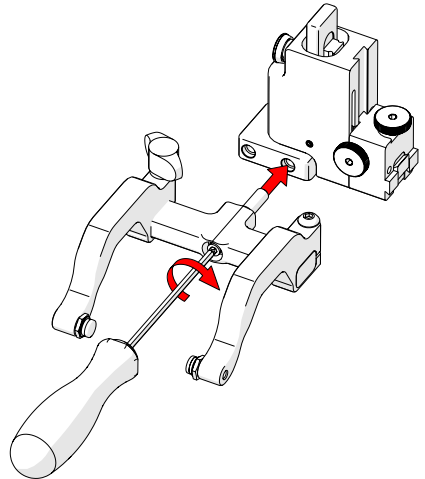

Fig. 133 - Screw into threaded hole
17. Screw the yoke to the probe holder (Fig. 133).